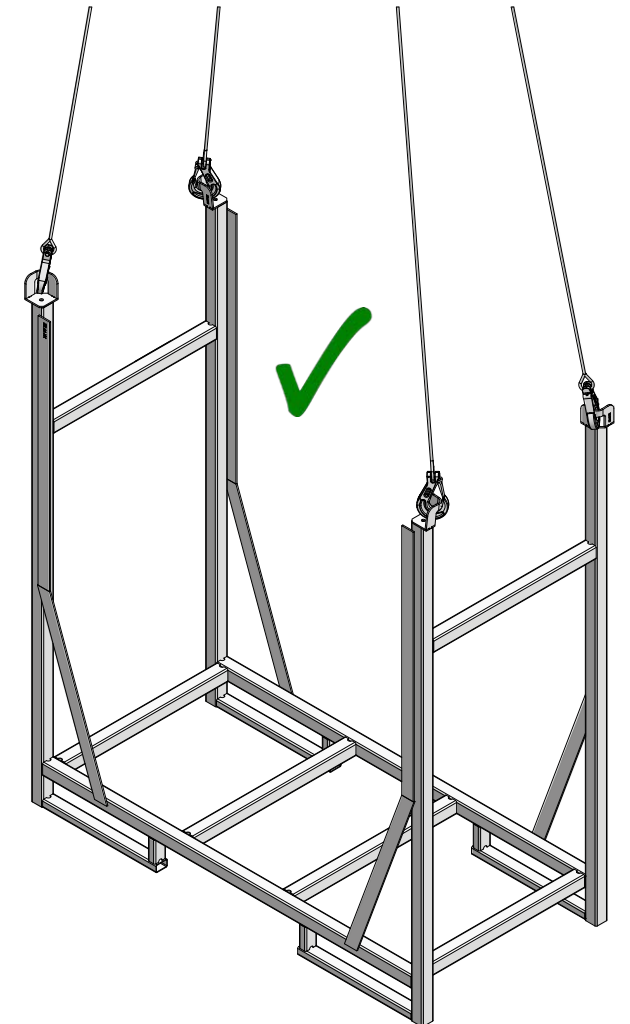
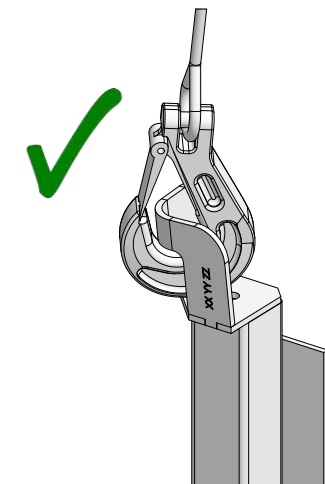
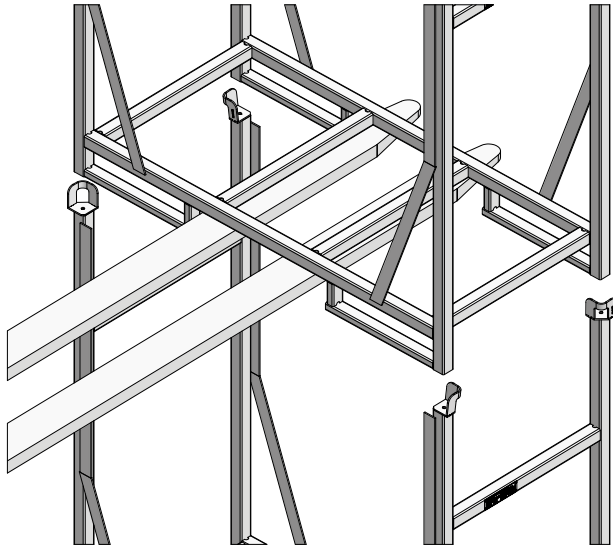

Fig. 3: attached to all four crane eyes
Fig. 4: Load hook closed
Fig. 7
- During the lifting process ensure that the load does not swing to and fro or strike other parts. The tips of load hooks must not be subject to load and must move freely in the attachment eyelet (Fig. 4 and Fig. 6).
Make sure there is nobody in the hazardous area in the vicinity of the load. Use only lifting gear with lifting chains. The load hooks on the lifting chain must be correctly closed and move freely in the attachment eyelets of the S.-MevaDec-e transport rack (Fig. 4).
The S.-MevaDec-e transport rack can be moved by crane (Fig. 3), forklift truck (Fig. 7) or lift truck.
- By crane. Ensure that no persons are located in the danger zone of the load. Use only a 4-rope crane sling with lifting chains. The lifting chains must be able to move freely in the attachment point, and the hook must be closed and secured to prevent it disengaging inadvertently (Figures 3 to 6).
→ Transport using a forklift truck (Fig. 7). The length of the forks must correspond to the dimensions of the S.-MevaDec-e transport rack.
Attach the crane sling's load hook to the attachment eyelet (Fig. 4) on the S.-MevaDec-e transport rack so that it cannot slide out of the eyelet when a rope or chain is slack. All **four load hooks** must be attached at all times (Fig. 3).
The lifting chains must be able to move freely in the attachment point, and the hook must be closed and secured to prevent it disengaging inadvertently (Figures 4 and 5).